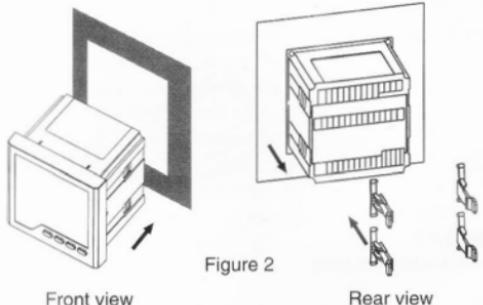

Figure 2
4.2 Installation Diagram (See Figure 2)